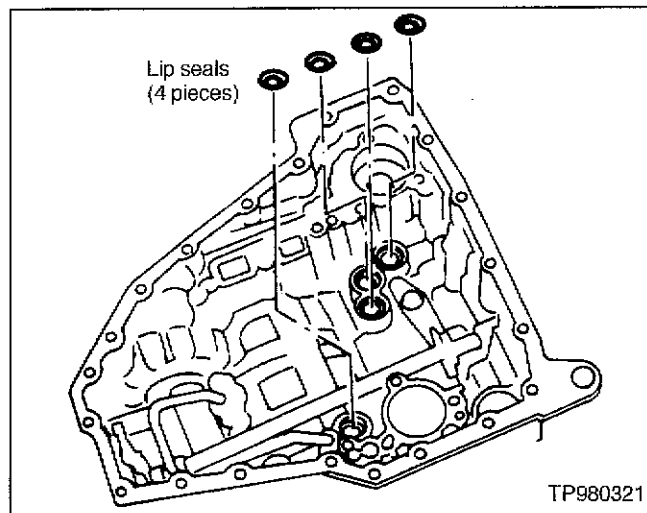

Figure 4
11. Inspect the four lip seals on the transaxle to ensure they are in their original locations and are not damaged or dislodged (see Figure 4). Replace damaged lip seals (lip seal P/N: 31528-31X06).